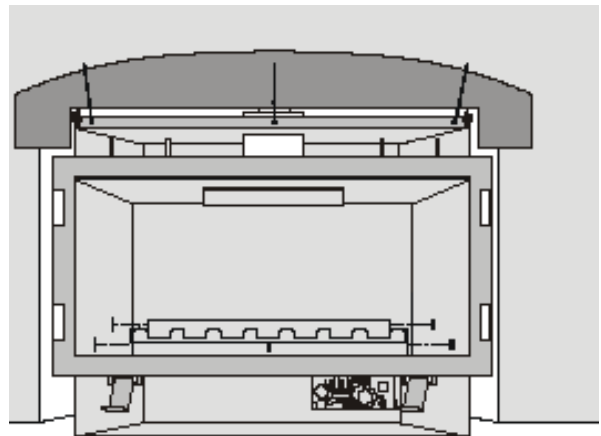

Figure 10a. Installing the backing plate.
4. Position the **backing plate** along the top of the insert and attach it using the three screws provided. See figure 10a, below.